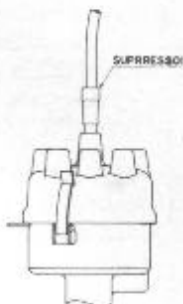

Fig. 5.
2. Install suppressor in center hole of distributor cap. Place high tension lead in the top of suppressor. Be sure the suppressor and the lead are fastened securely. (Fig. 5.)